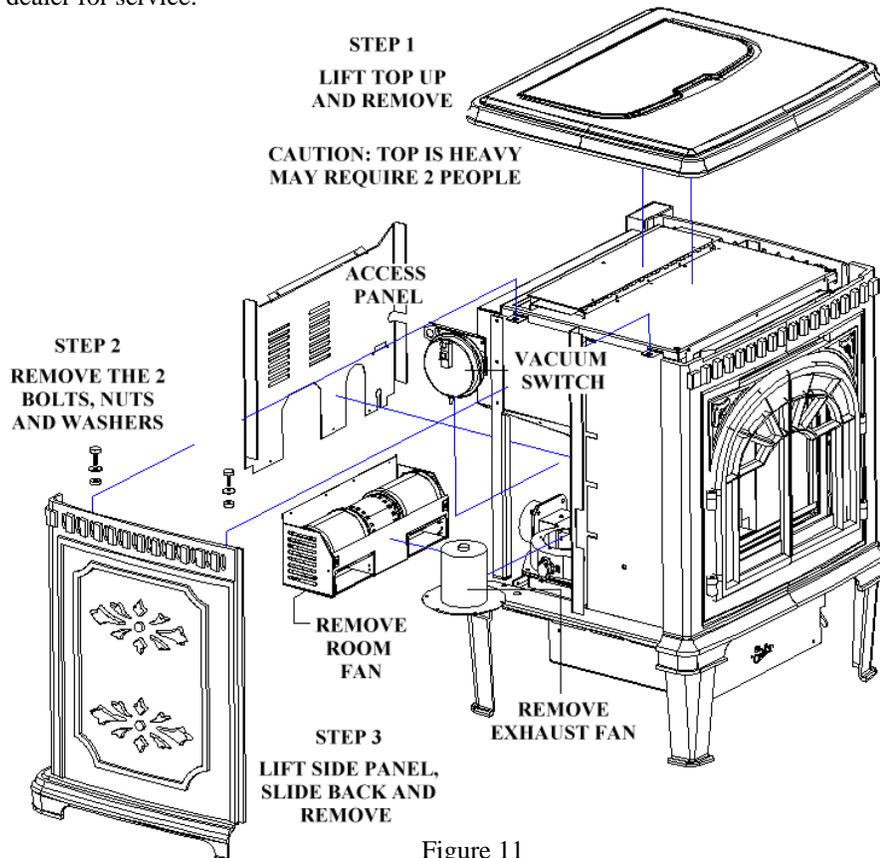

Figure 11
4. The exhaust fan should be removed (may require a new gasket) and cleaned with compressed air annually. Call dealer for this service. Annual oiling of the motors is not needed. (See Figure 11)
5. The Convection Blower should be removed and cleaned with compressed air annually. Annual oiling of the motors is not needed. (See Figure 11)